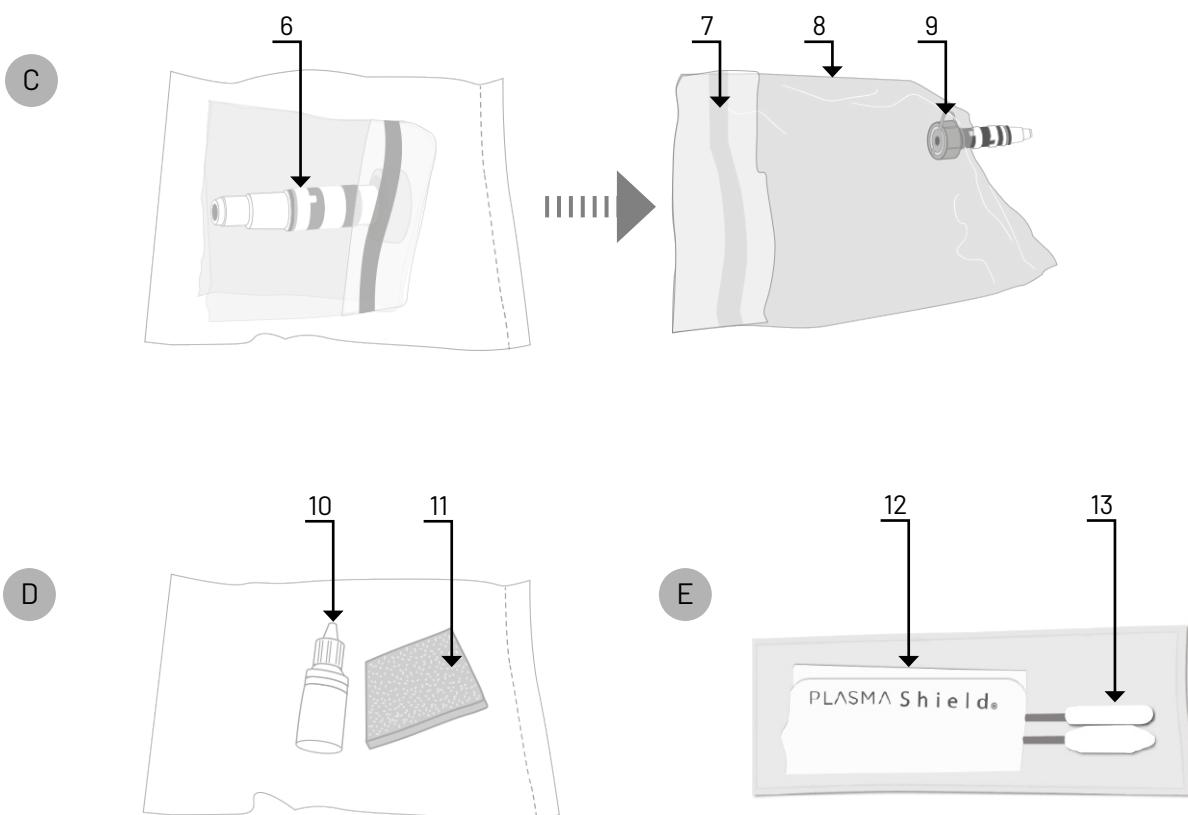

Fig. 3 (PLASMAShield Disposable, Anti-Fog Solution, and Trocar and Scope Cleaning Set)
For 10 mm scopes, remove the 5 mm Scope Adapter from the Disposable. For 5 mm scopes, use the Adapter (see Fig. 3, C-9).
3. Cover the Base completely by removing the Drape Adhesive Tape (see Fig. 3, C-7) liner and taping the Drape closed.
5. Open the Anti-Fog Solution and Sponge pouch (see Fig. 3, D) in the sterile zone. Remove the adhesive tape liner and stick the Sponge onto the Base Drape above the Disposable, making sure not to cover the Display Screen with the Sponge.
6. In case there is a need for reactivation during surgery, first wipe the scope with the cleaning cloth and/or swabs (see Fig. 3, E-12 / 13) and then perform the lens activation.